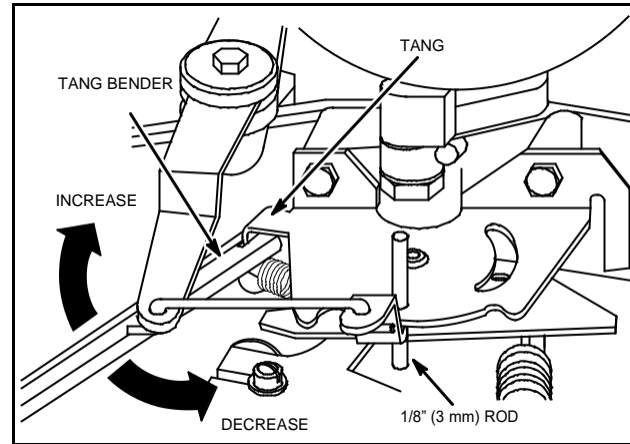

Fig. 37 – Adjust Governed Idle
1. Loosen constant speed locking screw and washer and move control lever until a 1/8" (3 mm) rod can be inserted through two (2) holes in governor control plate, Fig. 37.